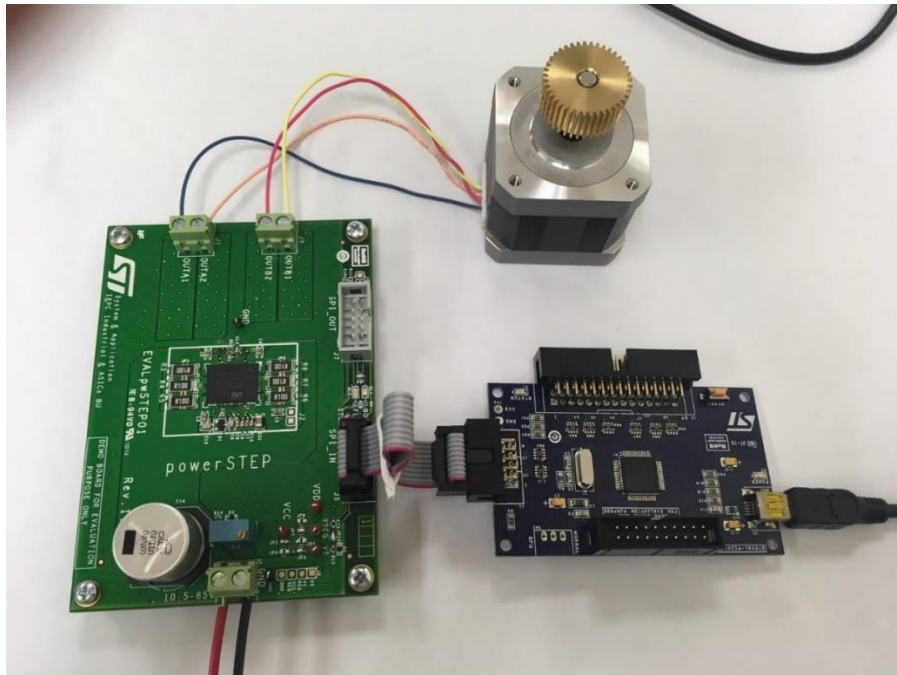

Figure 1. Connecting the evaluation system and motor
1. EVLPOWERSTEP01 evaluation board (pictured in figure 1).
2. STEVAL-PCC009V2 communication bridge board (pictured in figure 1)
Connect the system as shown in Figure 1. Be mindful of the correct polarity for the DC power, but the polarity, or even which coil goes to which connector, for the motor wires is not important as it only determines the convention of clockwise vs. counter-clockwise. Do be sure that you do not connect one wire from coil A and the other from coil B to the same connector. A quick check with an ohmmeter will verify which two wires constitute a coil.